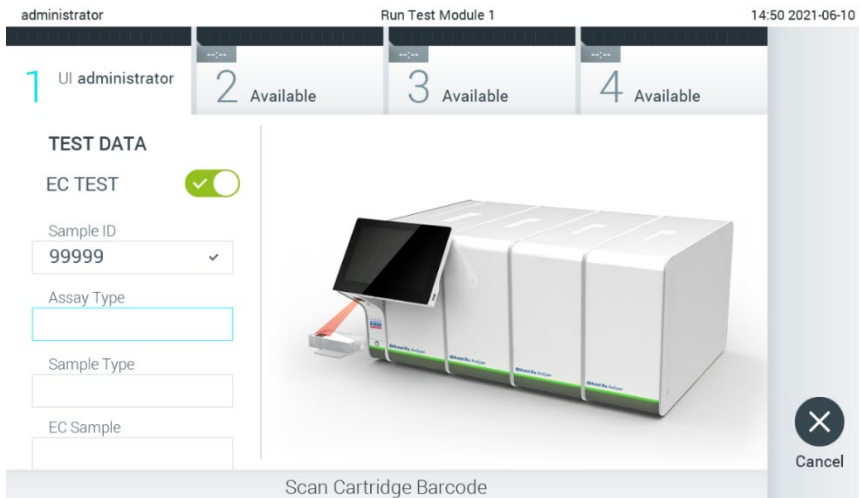

Figure 90. Scanning the QIAstat-Dx assay cartridge bar code.
- When prompted, scan the bar code of the QIAstat-Dx assay cartridge to be used. The QIAstat-Dx Analyzer 1.0 automatically recognizes the assay to be run, based on the QIAstat-Dx assay cartridge bar code (Figure 90).